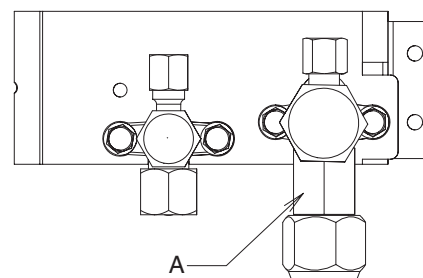

Fig. 1-116
- When removing or tightening the gas tube flare nut, use 2 adjustable wrenches together: one at the gas tube flare nut, and one at part A. (Fig. 1-116)